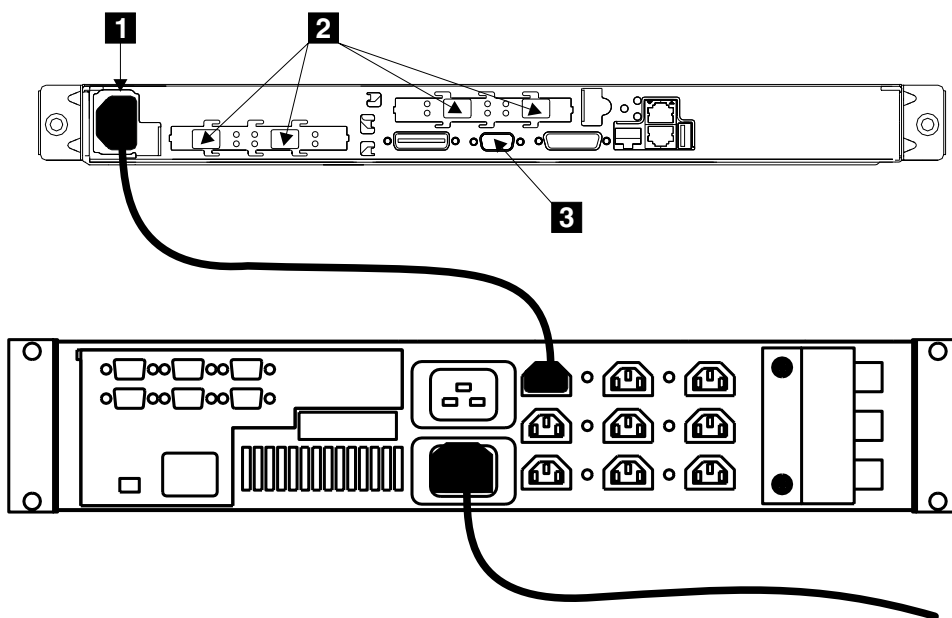

Figure 1. Power cable and signal sockets
This topic tells you how to check the grounding of the SAN Volume Controller. Figure 1 shows the connectors for the SAN Volume Controller and the uninterruptible power supply.
2. Ensure that the power cable **1** is plugged into the uninterruptible power supply. Also ensure that the other ends of the power cable are connected to the power supply in the rack. See Figure 1.